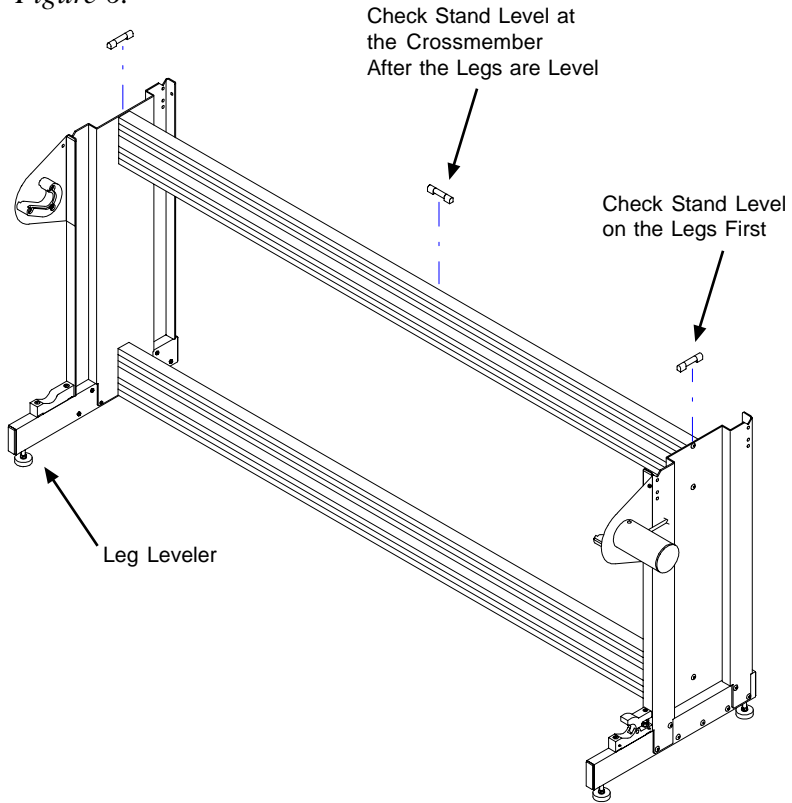

Figure 6. Leveling the stand.
1. Use an adjustable wrench to loosen the lock nut on both of the leg levelers. Place a level across the top of the right stand leg, perpendicular to the crossmembers. Adjust the threaded feet until the stand is level along the long axis of the leg. Repeat this procedure for the left leg. See *Figure 6*.
2. Place a level on the upper crossmember. Repeat the adjustment procedure as above except rotate both levelers on each leg the same amount so that the legs stay level. Adjust the threaded feet until the stand is level on the long axis of the crossmember. See *Figure 6*.